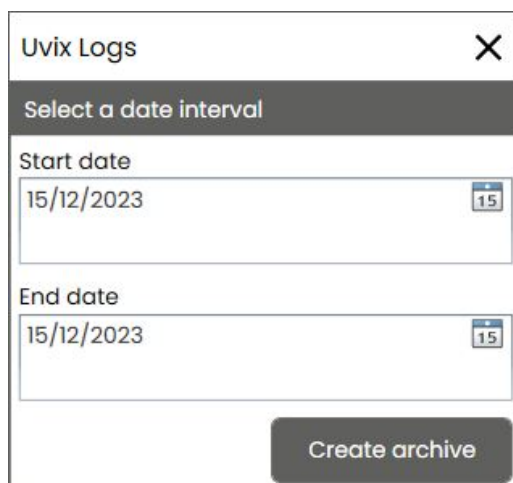

Figure 5.6: UVIX Logs
- UVIX Logs, as shown in Figure 5.6: allows you to export the logs of the USB Gateway within a specific time frame, specifying the start and end dates. This data may be requested by Camozzi Service after a request for support.